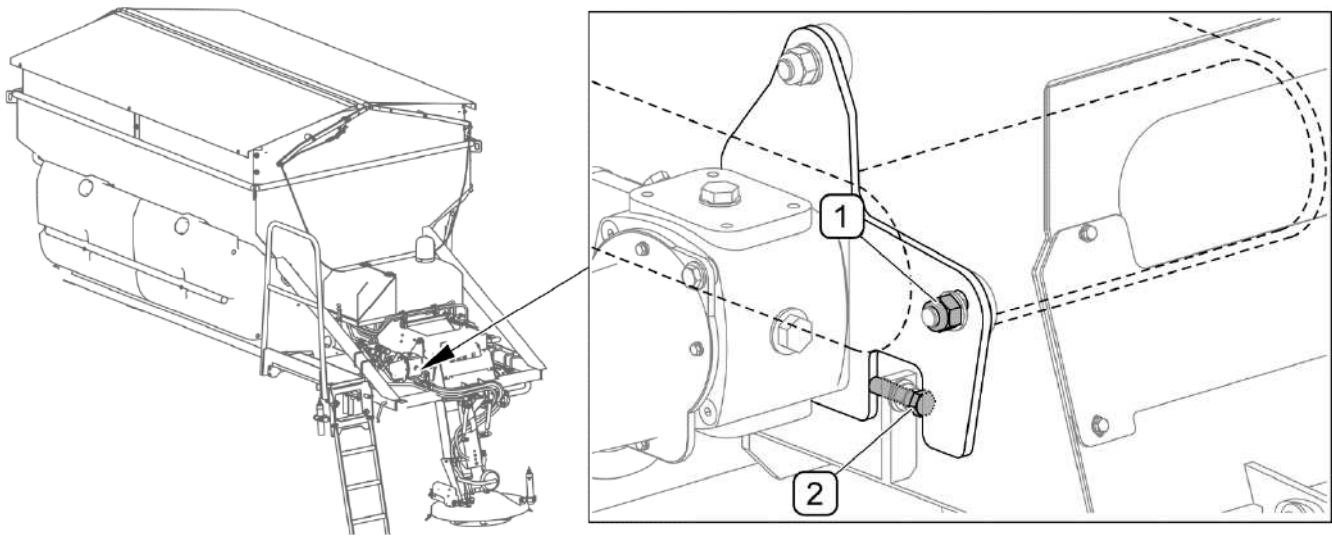

FIG. 5.6 Adjustment of drive roller
(1) - locking nut; (2) - adjusting screw
If the conveyor belt is shifted sideways to the edge of the conveyor drive roller (FIG. 5.6), make proper adjustment of the roller. The adjustment is made only on one side of the conveyor using bolt (2) by changing the position of the roller drive transmission bracket. Start the carrying vehicle's external hydraulic circuit that supplies the machine. Activate "Unloading" function in "Counters" menu on the control panel. A detailed description can be found in section 4.9 *UNLOADING*. Loosen nut (1) and position the belt in the middle of the roller by means of adjustment bolt (2). During the adjustment, make one turn of bolt (2) and wait for some time to see the effect of the adjustment. Repeat the activity until moving conveyor belt is positioned in the middle of the conveyor roller. After adjustment, disengage conveyor drive, tighten nut (1).